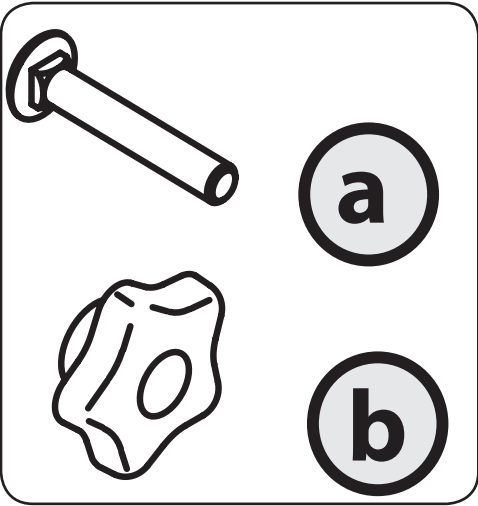

Figure 3-1
1. Remove the carriage screws (a) and star knobs (b) from the carton. See Figure 3-1.